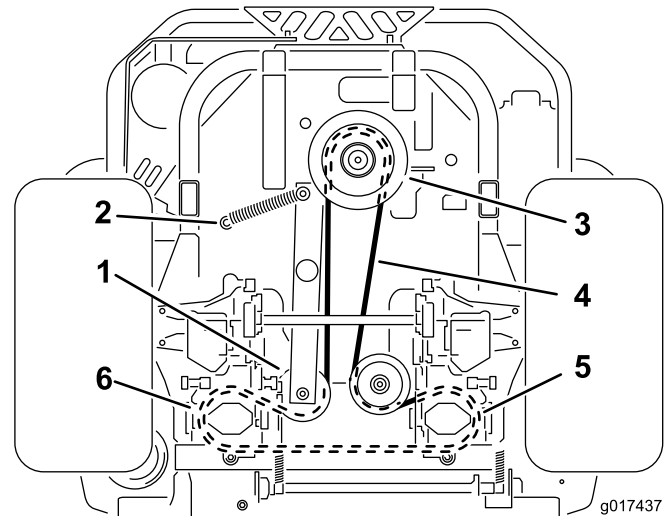

Figure 59
4. Raise the machine and support it with jack stands (Figure 59).
6. Remove the idler spring from the post (Figure 59).